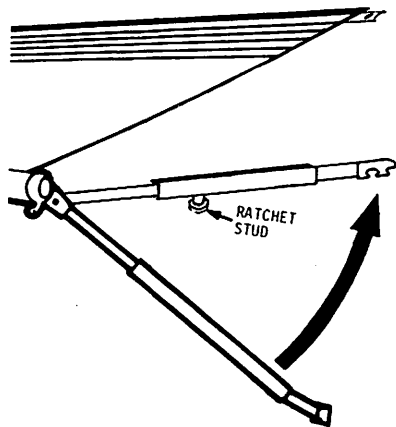
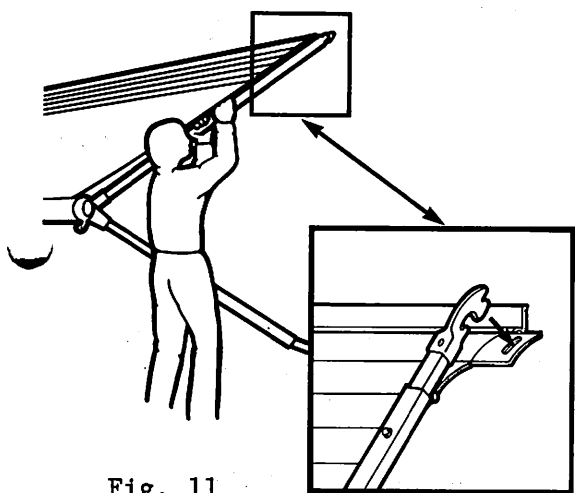
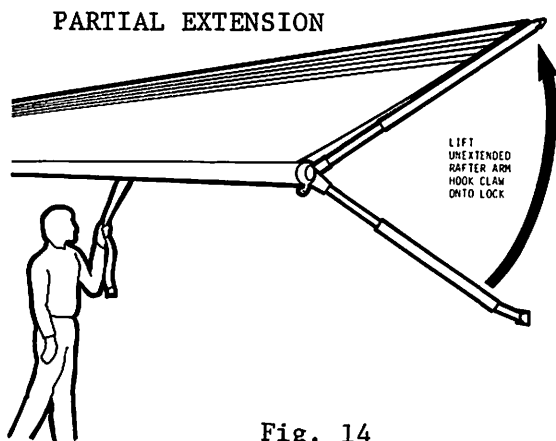

Fig. 10
Fig. 11
Fig. 14
- Step 3. Release the rafter arm by pulling outward on the cap of the ratchet stud. Raise the arm upward toward the case (Figure 10). Extend the arm and set the claw shaped end into the slot of the rafter lock (Figure 11).
- Step 3. To prevent billowing, release and raise the rafter arm (Figure 10) and hook the claw of the arm into the slot of the rafter lock (Figure 14). This will require the awning to be extended approximately four and one half feet.